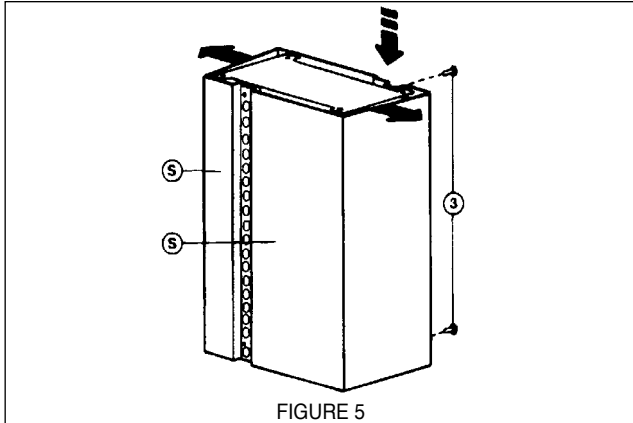

FIGURE 5
3. A template for mounting the support is supplied in the carton with the support. Use this template to mark holes for support on the ceiling. The chimney must be disassembled as indicated in FIGURE 5 to reveal the support. Before disassembling the chimney, remove all screws (3).